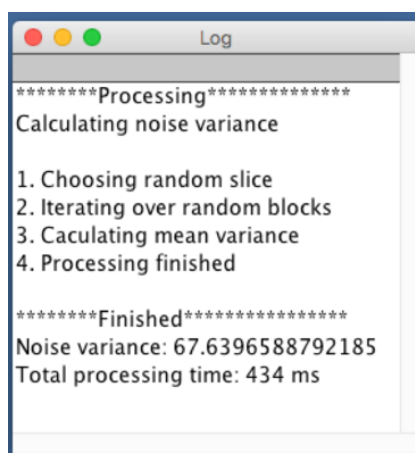

Figure 29: Image Noise Estimation Plugin logs - give a complete overview of the processing steps taking place.
8. An example is as shown in figure 29.